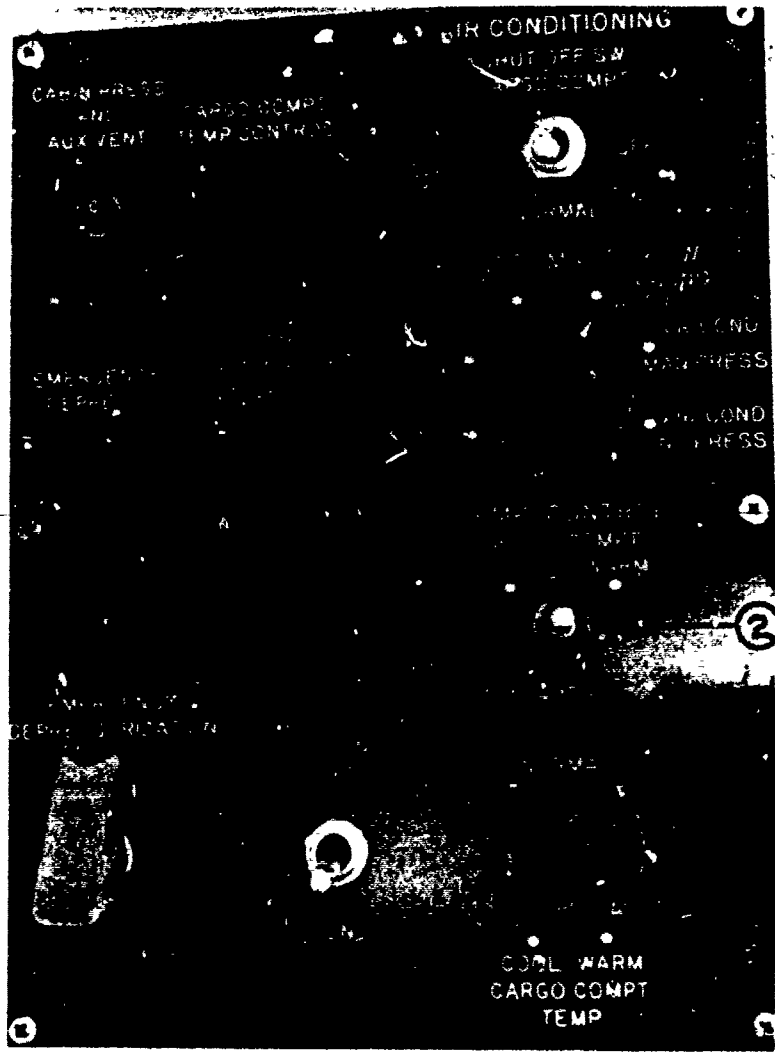

Figure 4.
b. Using the trainer and the illustration in figure 4, locate each of the numbered items. Write the name of each of these numbered items in the blank spaces below.
- (1) _____
- (2) _____
- (3) _____